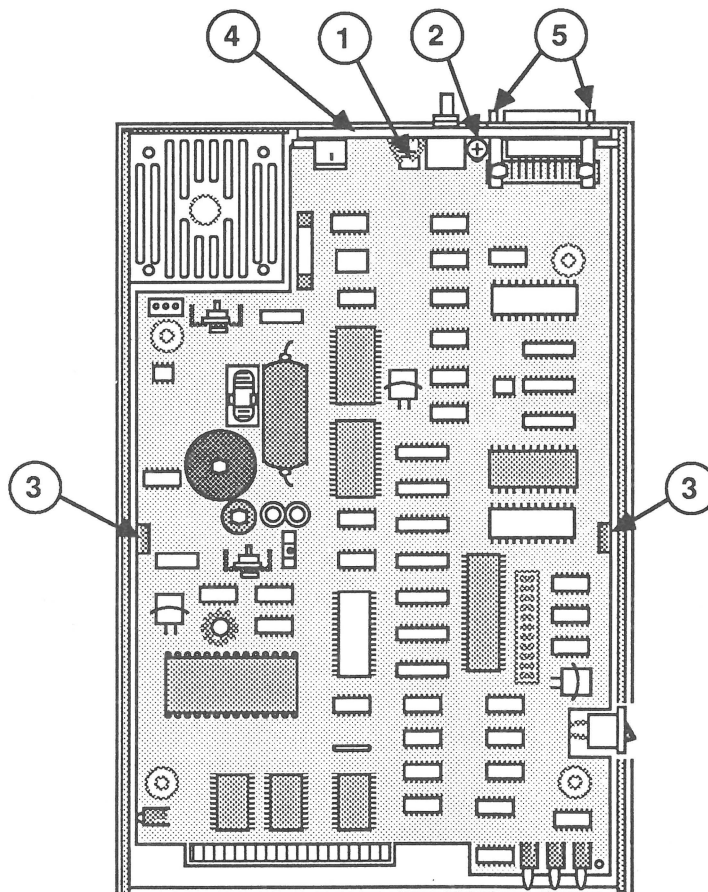

FIGURE 3
3. Disconnect the power switch cable from the logic board (Figure 3, #1).
4. Remove the logic board retaining screw (Figure 3, #2).
5. While using your thumb to push one of the logic board retaining clamps (Figure 3, #3) away from the logic board, use a flatblade screwdriver to pry the board free from the clamp.
6. Lift the unclamped side of the board and slide it away from the clamped side. Feed the power switch cable through the notch in the logic board (Figure 3, #1) until the board is free of the AppleLine.
1. Position the logic board above the bottom cover and feed the power switch cable through the notch in the logic board (Figure 3, #1). Connect the cable connector to the logic board.
2. Align the metal panel on the logic board with its receiving slot in the bottom cover. Tilt and lower the logic board so that the clamp notch on one side slides under the retaining clamp (Figure 3, #3) for that side.
Note: The logic boards and cases on the first AppleLine units were not designed for the metal rear panel (Figure 3, #4). If you are replacing an old logic board, use a wrench or nut driver to remove the two bolts (Figure 3, #5) that fasten the metal panel to the modem connector. Remove the metal panel and replace the two bolts before installing the new board.
3. Find the clamp notch on the unfastened side of the logic board (Figure 3, #3). Use a flatblade screwdriver to pry the logic board toward the clamped side and down, until the logic board snaps into place.
4. Replace the logic board retaining screw (Figure 3, #2).